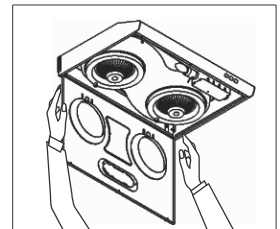

Fig.7-5
c. If you need to take apart the bottom plate completely, hold its right side and pull to left side with the puller, then remove to right side. (fig 7-5/7-6)